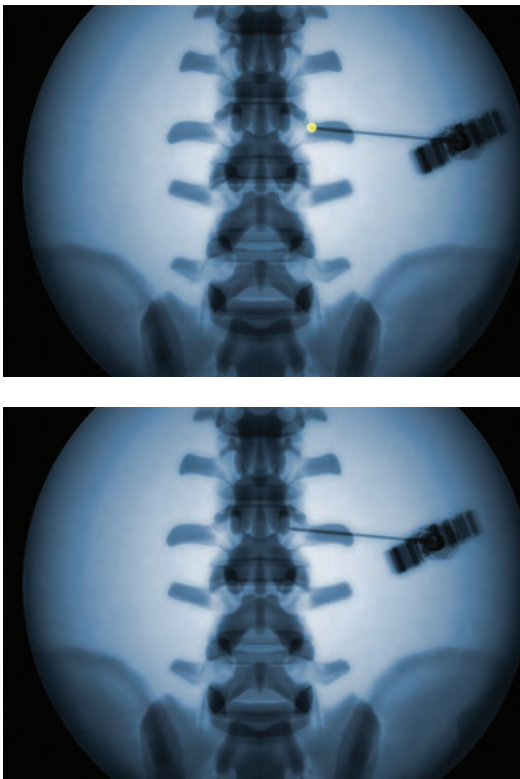

Figure 4
- Due to the nature of the pedicle anatomy, care should be taken to ensure that the starting point of the trocar begins in the proper trajectory and plane (Figure 4).